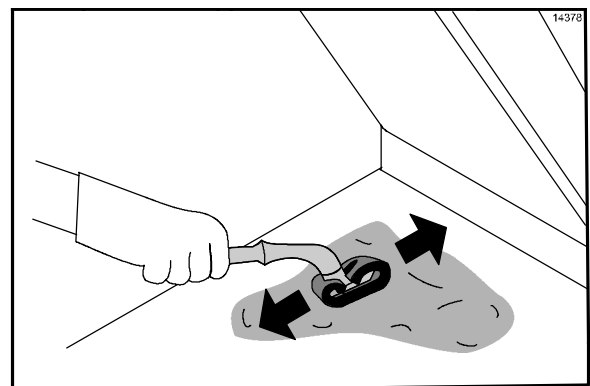

Figure 104
38. Spread the grill cleaner over the entire lower grill surface from front to back, using even strokes. **Do not scrub while applying product.** (See Figure 104.)